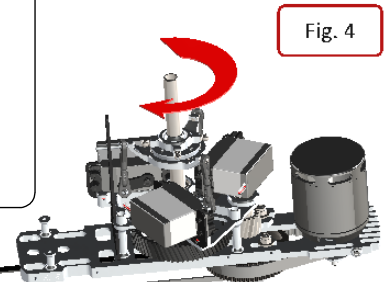

Fig. 4
- Mount the tail belt on the front pulley making sure the direction of rotation is correct (Fig 4).